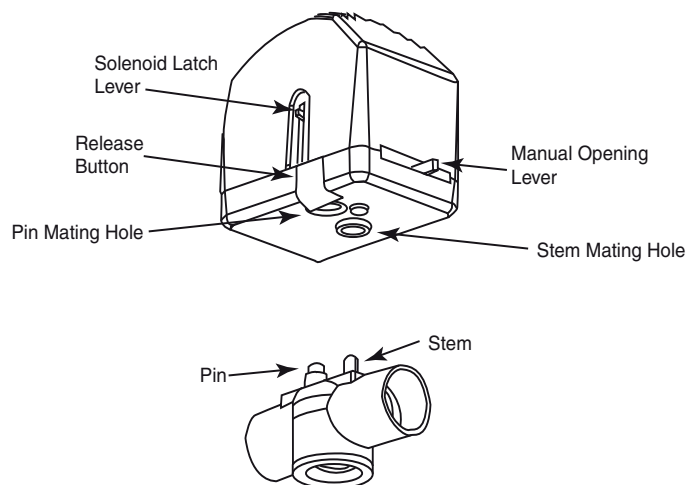

Figure-9 Three-Way Spring Return Valves.
- 2. With the valve in the mid-position, latch the solenoid by placing the manual solenoid latch lever in the "Up" position. Then, detach the actuator by depressing the release button and pulling it away from the valve body ( Figure-9).
**Note:** When installing threaded valves, the actuator should be detached from the valve body to ease installation. To do so, first slowly move the actuator's manual operating lever (on the front of the actuator) to the middle position. Then latch the solenoid by placing the red manual solenoid latch lever on the side of the actuator to the "Up" position. Finally detach the actuator by depressing the release button and pulling the actuator away from the valve body ( Figure-9).
1. Before reinstalling the actuator, be sure that its manual operating lever is in the mid-position, and that the solenoid is latched. The solenoid is latched when the manual solenoid latch lever is in its "Up" position ( Figure-9).
3. Align the valve body with the actuator to ensure the stem is inserted into the large mating hole on the bottom side of the actuator ( Figure-9).